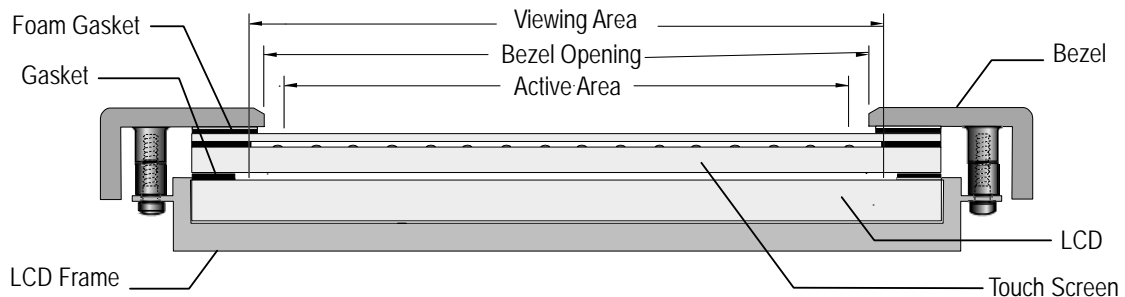

Figure 3: Positioning Bezel's Inner Edge Between Active and Viewing Areas
- If mounting with a bezel, the viewing area of the touch screen should be slightly larger than the bezel opening of the display to allow for assembly tolerances. The bezel should be positioned so that its inner edge is located between the active area and viewing area of the touch screen (Figure 3).
If mounting in a bezel, the viewing area of the touch screen should be slightly larger than the bezel opening of the display to allow for assembly tolerances. The bezel should be positioned so that its inner edge is located between the active area and viewing area of the touch screen (see Figure 3 on page 9).